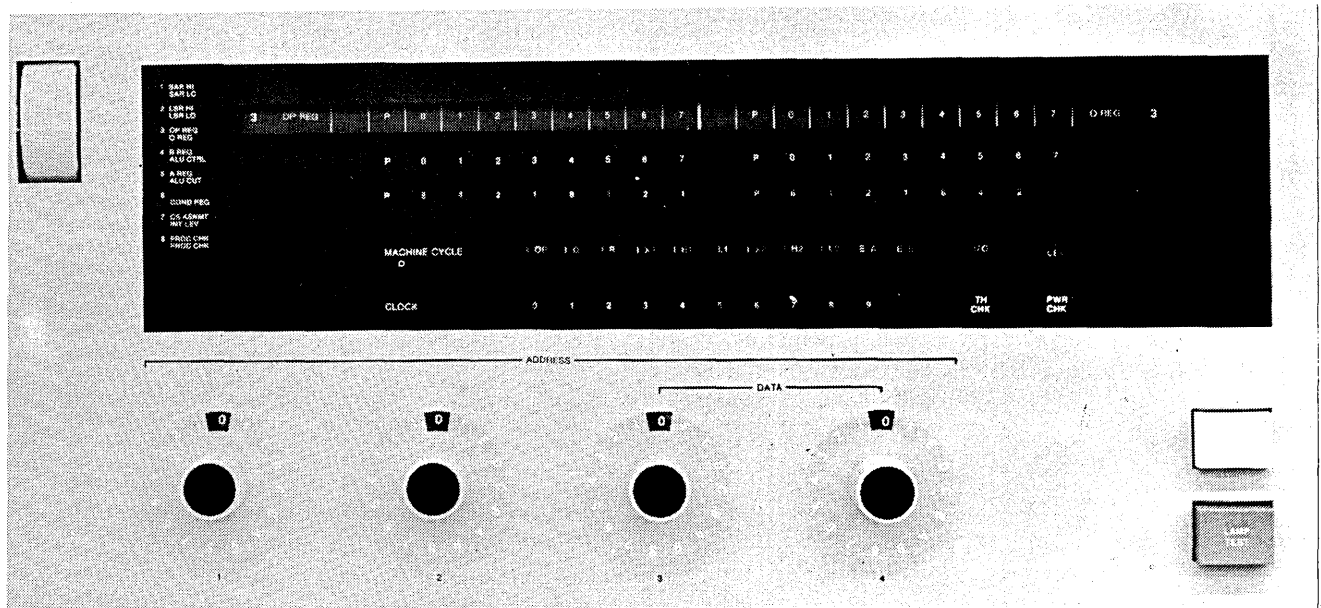

Figure 6. Processing Unit Display Panel
The lights on this panel (Figure 6) indicate system status and are mainly for Customer Engineer (CE) use.